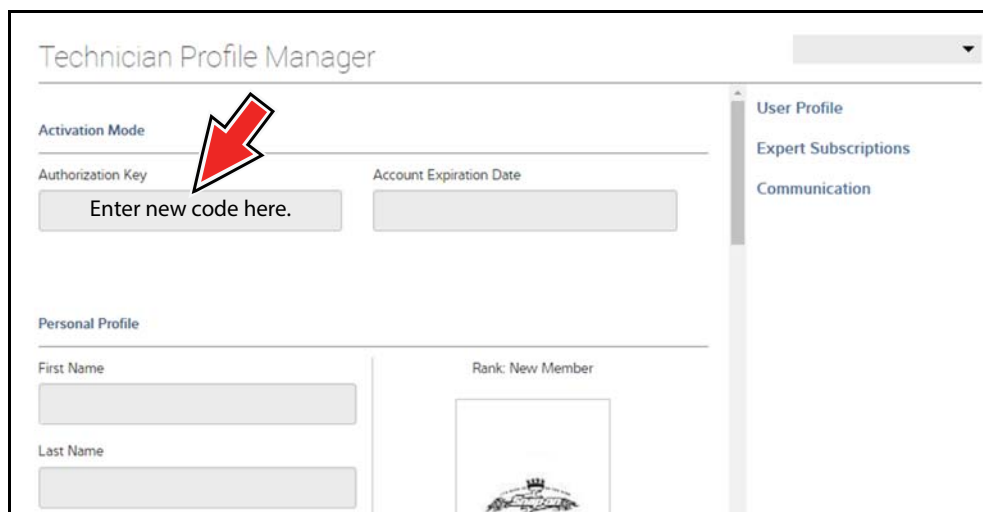

Figure 6-19
3. Log in to the Profile Manger (Figure 6-19) using your current username and password.
4. Enter your new **Authorization code** (Figure 6-19).